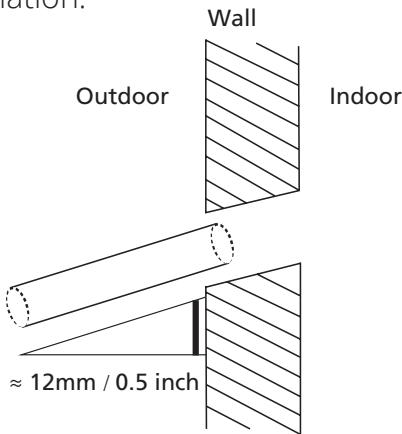

Fig. 6.5
3. Using a 65mm (2.5in) or 90mm(3.54in) core drill, drill a hole in the wall. Make sure that the hole is drilled at a slight downward angle, so that the outdoor end of the hole is lower than the indoor end by about 12mm (0.5"). This will ensure proper water drainage (See Fig. 6.5). Place the protective wall cuff in the hole. This protects the edges of the hole and will help seal it once you finish installation.